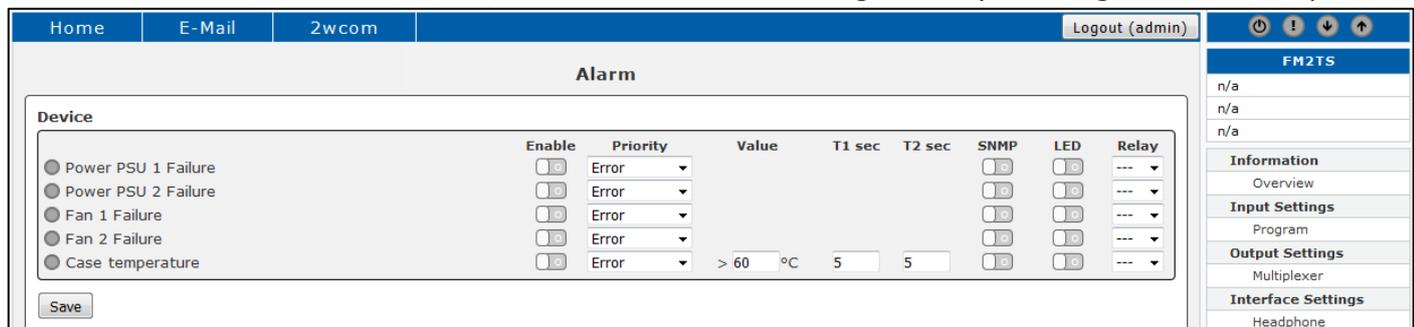

Figure 15: Alarm settings for the operation of the device
1. Open the configuration "**Device**" field in the window *Alarm* under **System Settings**→**Alarm** in the Web interface of FM2TS (see Figure 15).